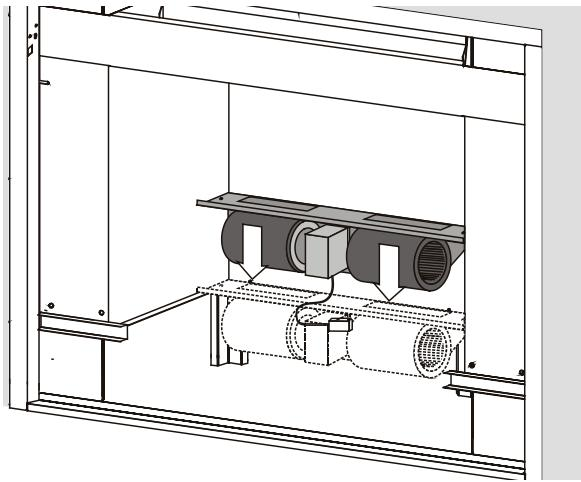

Figure 17. Installing the blower assembly.
7. Install the new blower assembly included with the S2 Heating Insert. The blower mounting bracket rests on the EP28 Shell's support ledges. Push the assembly back until it touches the back wall of the shell, and drive two screws through the pilot holes in the bracket. Refer to figure 17. Plug the fan into the fan speed